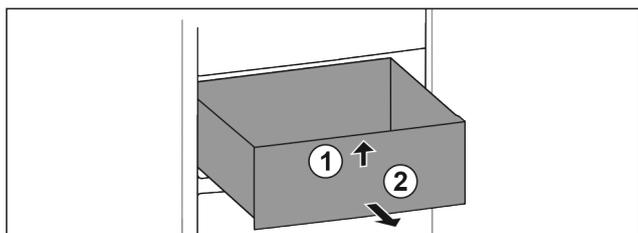

Fig. 17
- ▶ Lift at the front Fig. 17 (1).
- ▶ Take out to the front Fig. 17 (2).